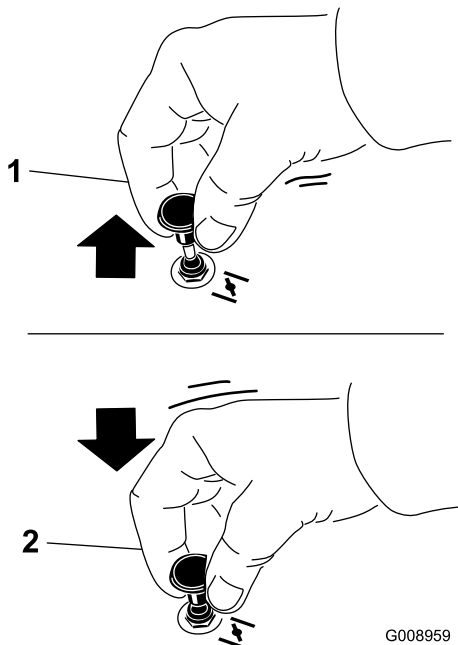

Figure 17
1. Pull up the choke knob to engage the choke before using the ignition switch (Figure 17).
2. Push down the choke to disengage the choke after the engine has started (Figure 17).